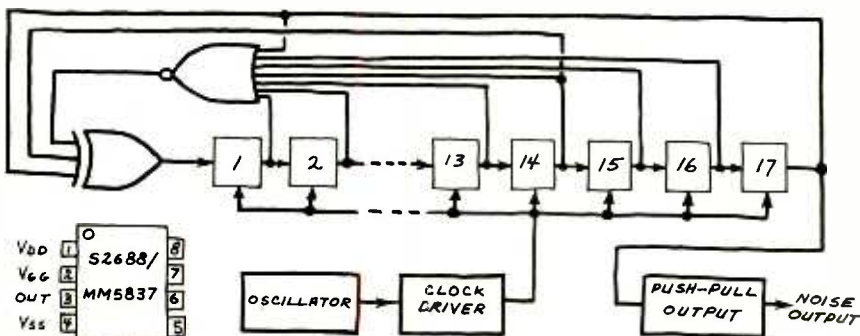

Fig. 5. Block diagram of S2688/MM5837 digital noise generator.
**S2688/MM5837 Digital Noise Generator.** The S2688/MM5837 (National Semiconductor) is a complete PMOS digital noise generator in an 8-pin mini-DIP. The internal circuit, shown in Figure 5, consists of a 17-stage shift register, some gates and a clock. Pseudorandom bit patterns are produced by connecting the outputs of the 14th and 17th stages of the shift register to an exclusive-OR gate whose output is applied to the input of the first stage in the shift register.